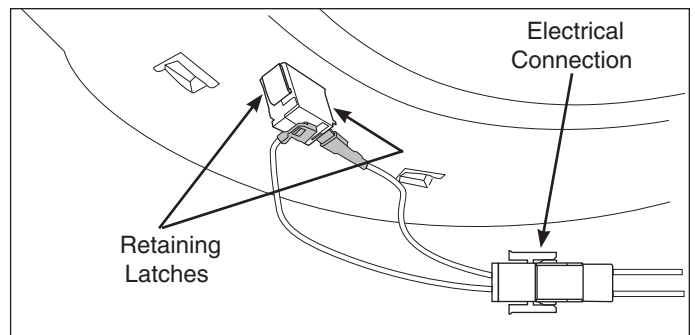

Figure 4-19.
3. After extracting the screws securing the front panel to the unit frame, reach behind the front panel and disconnect the wire harness for the door switch at the Molex connector. The front panel can now be removed from the unit. (See Figure 4-19)
5. From the backside of the front panel, press in the retaining latches while pushing door switch through the front panel. (See Figure 4-19)